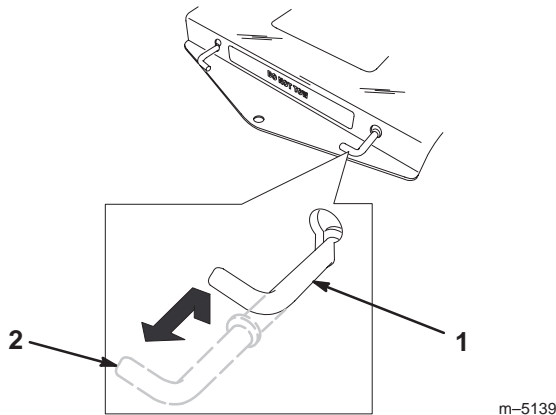

Figure 14
2. Pull the two bypass levers up and push them until the washer on the rod passes through the slot. Push the levers down to lock them in place (Fig. 14).
Pull each bypass lever up and pull them completely out. Push the levers down (Fig. 14).